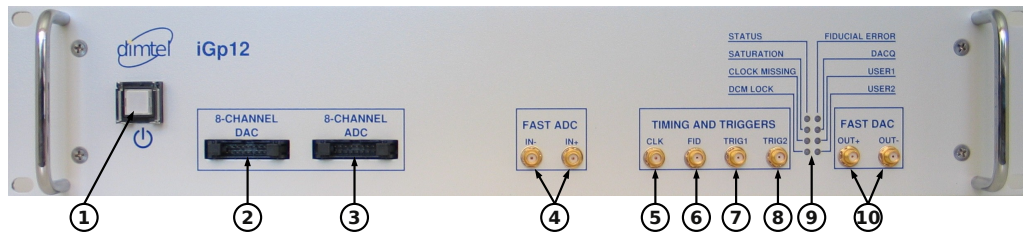

Figure 3: Front panel features
1. Connect **RF** clock at -3 dBm nominal level (Fig. 3, item 5);
2. Connect single-ended high-speed **ADC** input signal to **Ain+** (Fig. 3, item 4). The **FS** swing of this signal should be 780 mV peak-to-peak;
3. Connect a $50\ \Omega$ terminator to **Ain-** (Fig. 3, item 4);
4. Connect high-speed **DAC** output(s) (Fig. 3, item 10) to the appropriate back-end unit;
8. Push the power button (Fig. 3, item 1) to turn on the system;
10. Push the power button (Fig. 3, item 1) to turn the system off;